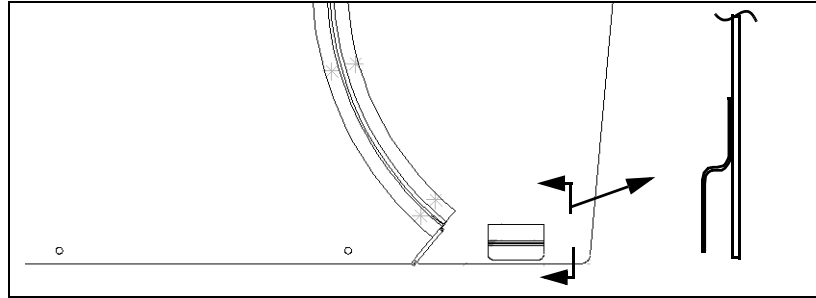

Figure A-3—Detail of Clip on the Inside of the Lower Cover
5. Slide the cover up (toward the Control Panel) to unhook a clip in the lower left corner, then lift off. See Figure A-3.